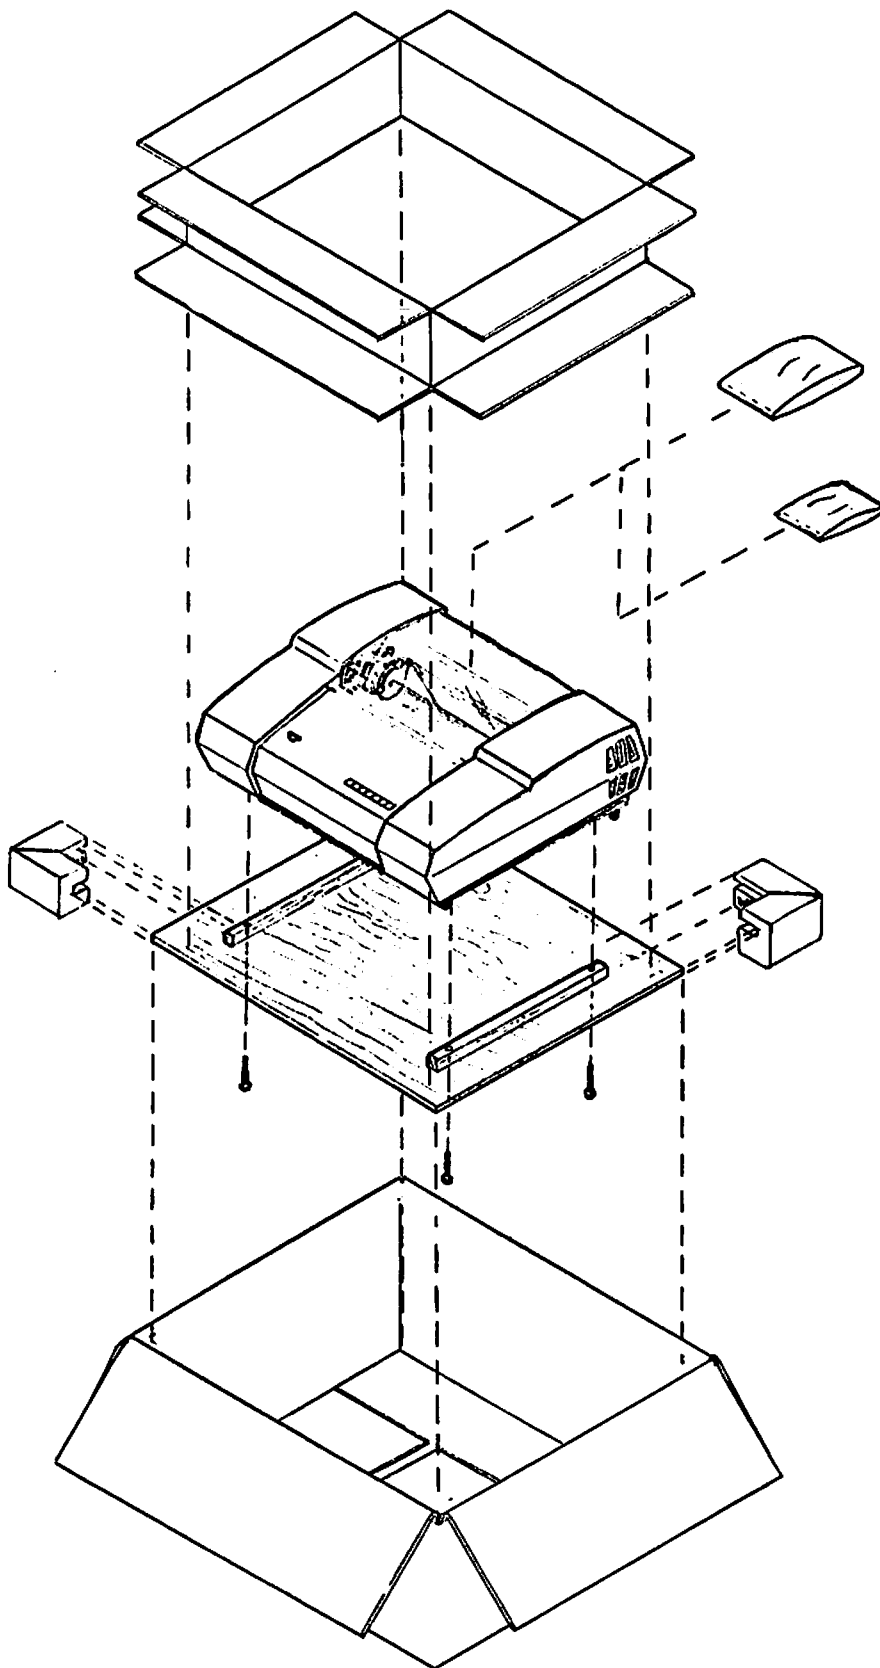

FIGURE 2-1 UNPACKING THE PRINTER
2.3.1 UNPACKING (See Figure 2-1)